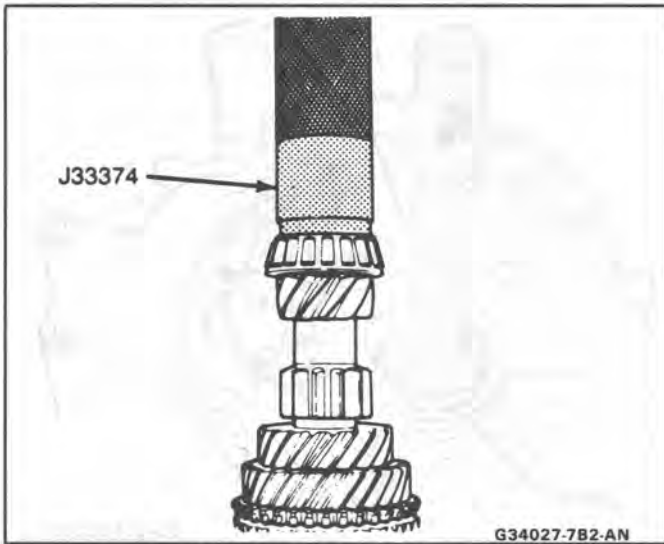

Fig. 28 Front Bearing Input Shaft
4. Install the front and rear bearings using J 33374 and a press (Figs. 28 and 29). Before installing, apply oil to the bearing interior and race surfaces.